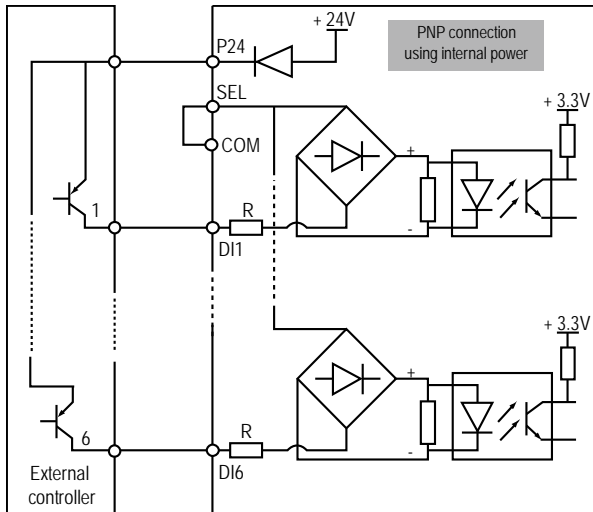

Figure 4-12 PNP signal input connection when using internal 24V power supply
4. If the controller's internal +24V power supply is used, the common emitter output connection of the PNP transistor in the external controller is as shown in Figure 4-12. (Note that the SEL and the P24 are not short-circuited)